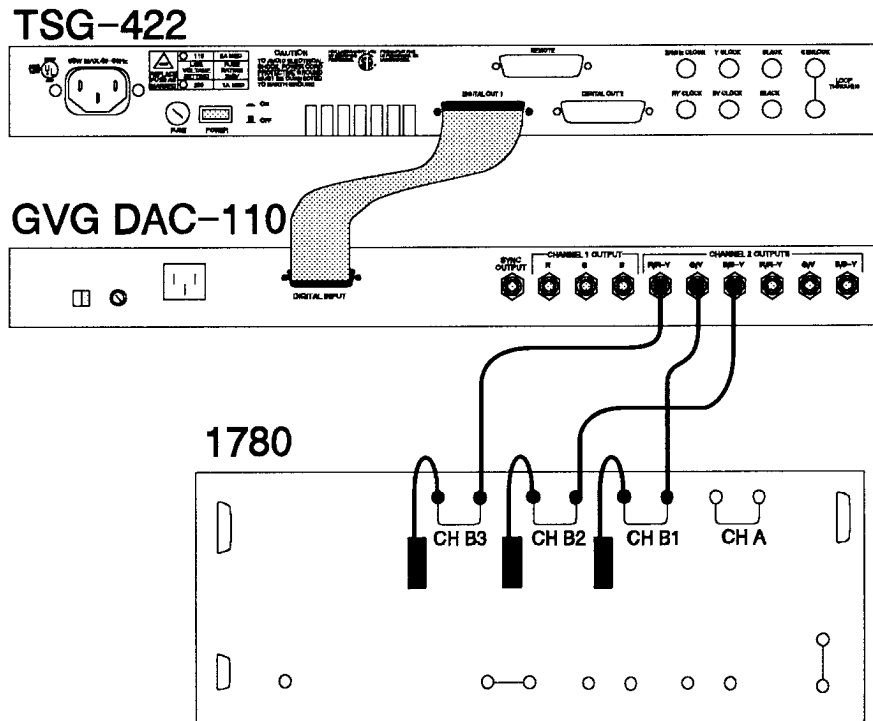

Fig. 5-7. Setup to check the signal outputs.
- Connect the test equipment as shown in Fig. 5-7.